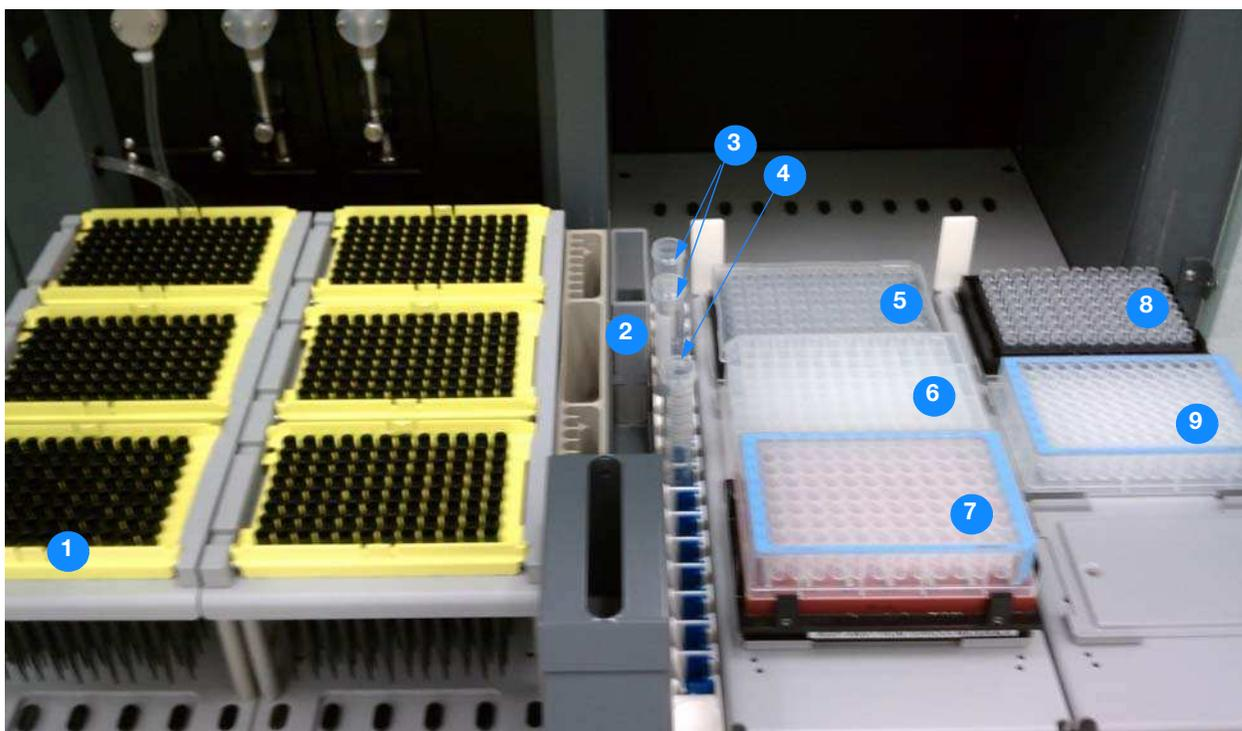

Figure 4 Layout of the worktable for Layout for SOLiD5500_Frag_Part 2
1. Follow the prompts to setup the worktable (refer to Figure 4 on page 31):
For each position identified in Figure 4, the table below lists the reagents, and their worktable grid and site numbers.